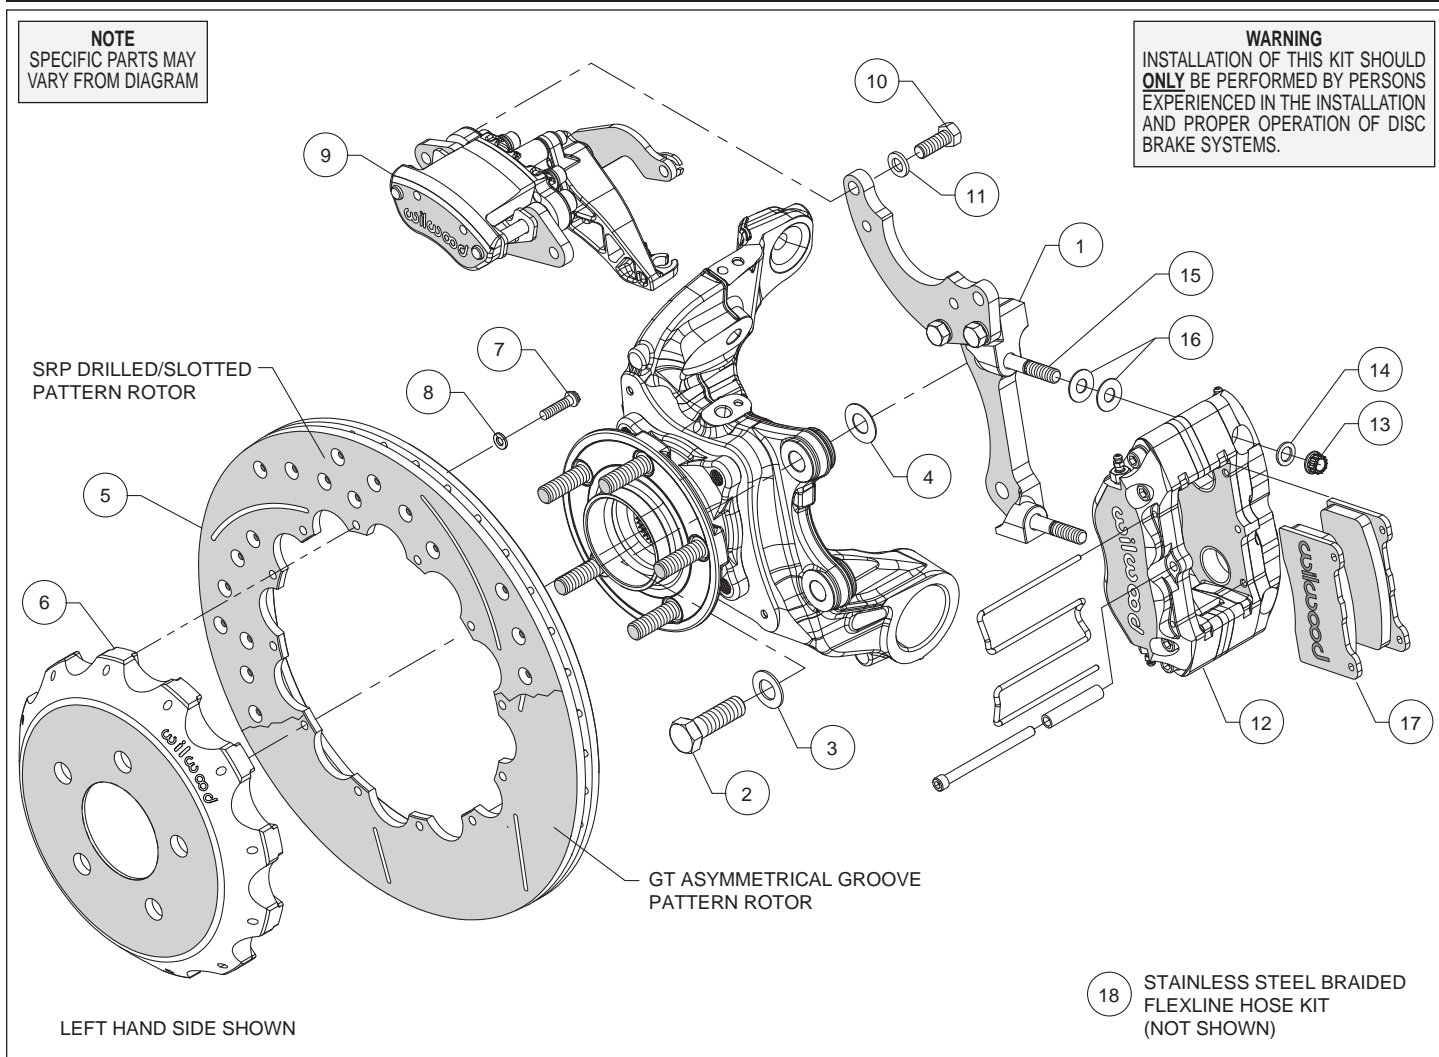
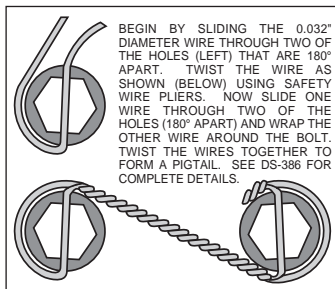

Figure 1. Typical Installation Configuration
Figure 3. Safety Wire Diagram
Assembly Instructions (numbers in parenthesis refer to the parts list and Figure 1 on the preceding pages):
- The caliper mount bracket (1) should initially be installed with clean, dry threads on the mounting bolts. Orient the bracket as shown in Figure 1, and Photo 1, and install using bolts (2) and washers (3). Initially place one .029" thick shim (4) on each bolt between the bracket and upright, Figure 1. Temporarily tighten the mounting bolts. **NOTE:** *The bracket must fit squarely against the mount bosses on the upright.* Inspect for interference from casting irregularities, machining ridges, burrs, etc. Later, after the caliper alignment has been checked, the mount bolts will be secured using red *Loctite*® 271.
- Orient the rotor (5) and the hat (6) as shown in Figure 1 and Photo 2. Attach rotor to hat using bolts (7) and washers (8). Using an alternating sequence, apply red *Loctite*® 271 to the threads, and torque to 155 in-lbs. For an added measure of security, the bolts may be safety wired using standard 0.032 inch diameter stainless steel safety wire as shown in Figure 3. Please refer to Wilwood's data sheet DS-386 (available at www.wilwood.com/Pdf/DataSheets/ds386.pdf) for complete safety wire installation instructions.
- Lubricate the caliper mounting studs (15) with lightweight oil. Initially place two .035" thick shims (16) on each stud as shown in Figure 1 and Photo 4. Mount the caliper (12) onto the bracket (1) using lock nuts (13) and washers (14), Figure 1. Temporarily tighten the lock nuts and view the rotor through the top opening of the caliper. The rotor should be centered in the caliper, Photo 5. If not, adjust by adding or subtracting shims (4) between the bracket and the mounting bosses. Always use the same amount of shims on each of the two mounting bolts. Once the caliper alignment is correct, remove the bracket mounting bolts one at a time, apply red *Loctite*® 271 to the threads, and torque to 77 ft-lb.
- Insert the brake pads (17) into the caliper with the friction material facing the rotor (5), as shown in Figure 1 and Photo 6. Check that the top of the brake pad is flush with the outside diameter of the rotor, Photo 7. If not, adjust by adding or subtracting shims (16) between the caliper and the bracket. After the caliper pad height is set, torque the caliper lock nuts (13) to 30 ft-lb. Secure the pads in place using the pad clip retainer as well as the center bridge pad retainer tube, bolt, and locknut, Photo 8. The locknut should be snug without play in the bolt or tube. Be cautious not to over tighten.
- Mount the parking brake caliper (9) onto the top section of the caliper mounting bracket (1) using bolts (10) and washers (11), as shown in Figure 1 and Photo 9. Apply red *Loctite*® 271 to bolt threads, and torque to 30 ft-lb